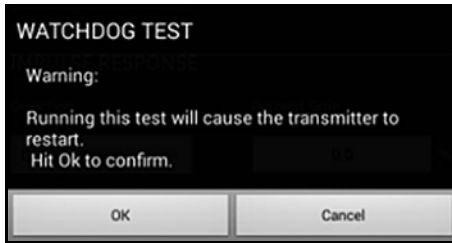

Figure 115: Watchdog Test Warning
2. A properly functioning PT900 restarts if the **Watchdog Test** is run, and a warning message similar to *Figure 115* below is displayed.